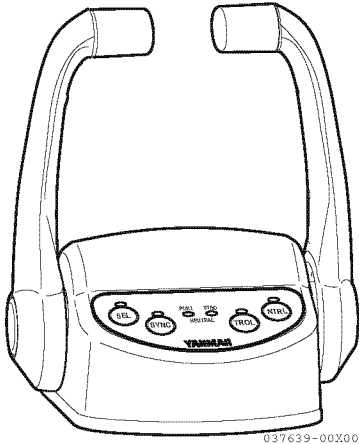
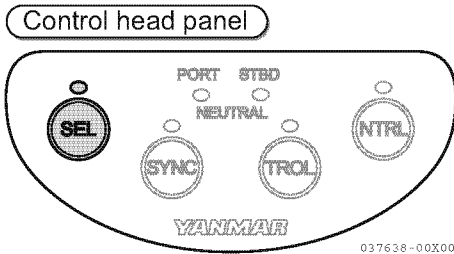

Figure 2
Figure 3
- The switch panel lamp will come on, and the control head (**Figure 2**) “SEL” lamp (**Figure 3**) will come on or flash.